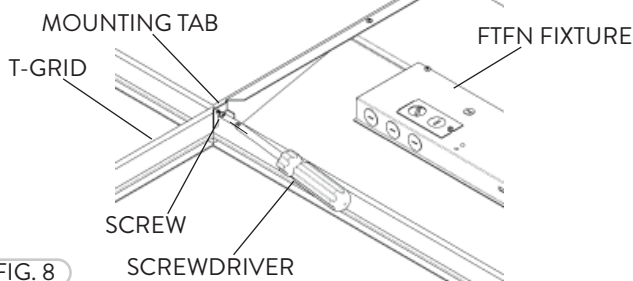

FIG. 8
- 4 To clear corners for ceiling tile, bend tabs flush against the T-Grid. Use a sheet metal Screw to fasten fixture to the T-Grid (Fig. 8).